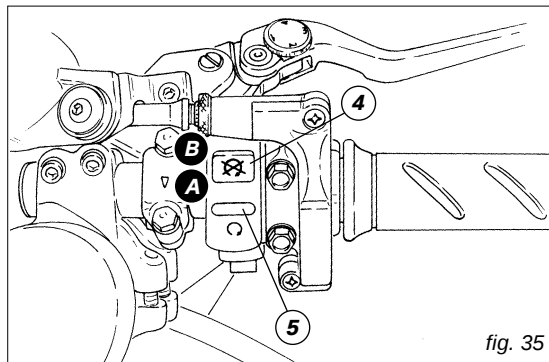

fig. 35
Check that the switch (4, fig. 35) is in the (A) position. Turn the key to "ON".